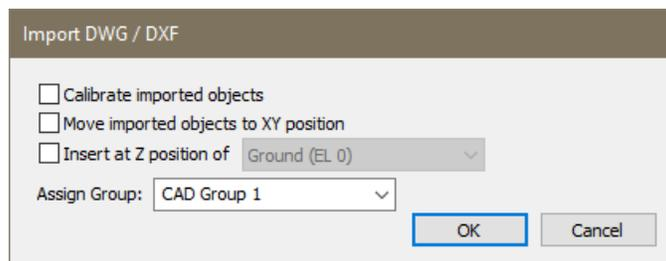

**Figure 4-1**
- Click on the *Active Level Up*  icon of the **Upper Right Level Toolbar** to make the next level up (Level 4) the active level and move the view to the Level 4 reference plane. You should now see the level 4 plane with only gridlines on it as shown in **FIGURE 4-1**.